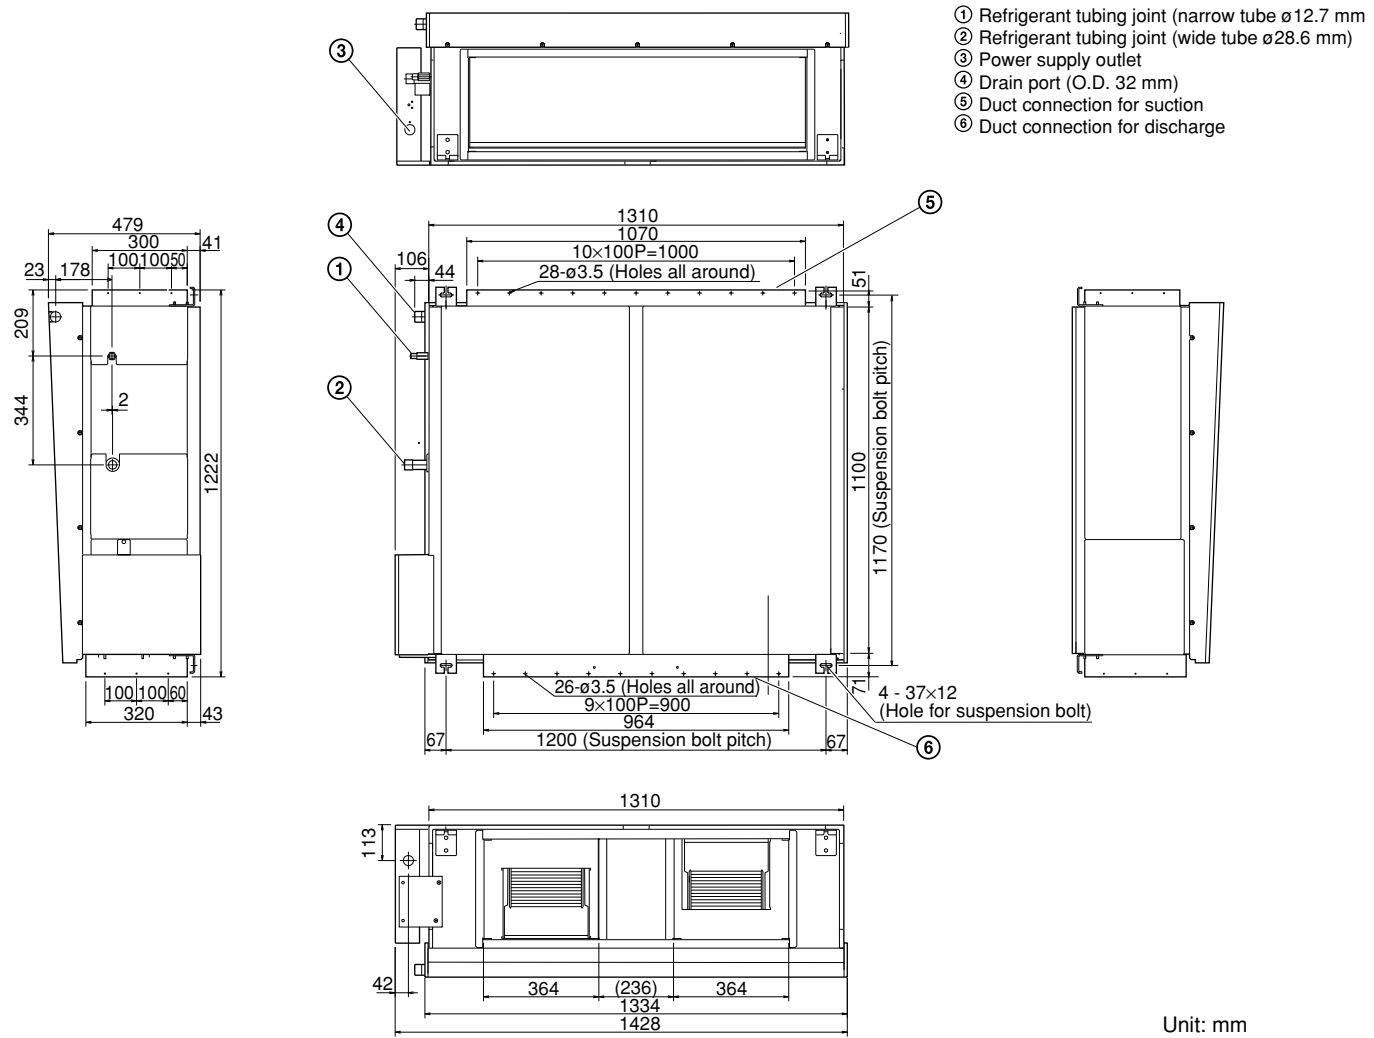

Fig. 3-98b
- Fig. 3-98b shows the detailed dimensions of the indoor unit.